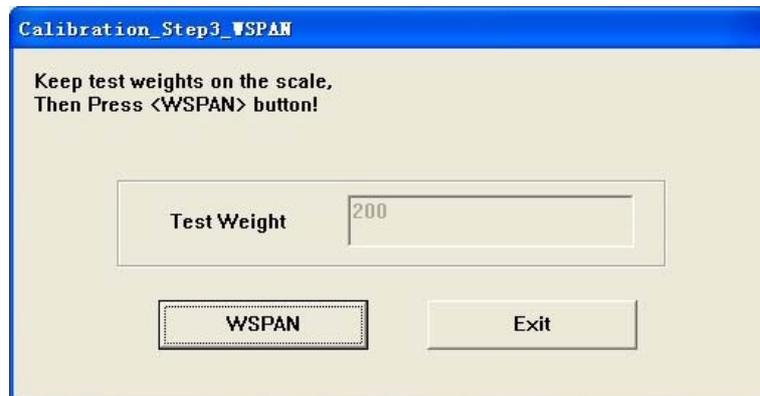

Figure 3-3 "WSPAN" Dialog
- Click "WVALUE" then "WSPAN" dialog pop-up. (see figure 3-3)